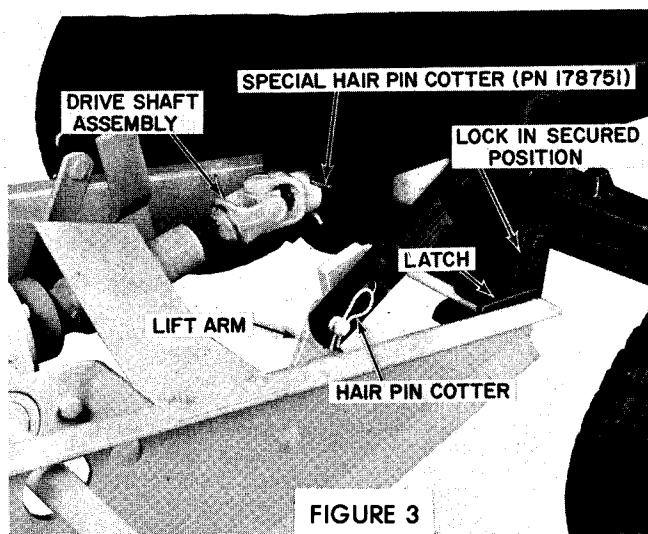

FIGURE 3
2. Raise the locks and the latches on the front of the tractor. Align front of tractor squarely with the pivoted rod on sno-thro and carefully drive the tractor forward until pivot rod is cradled in the tractor saddle brackets. See Figure 3.
4. Lower the latches and locks, Figure 3.
5. Attach drive shaft assembly to the tractor splined P.T.O. shaft and secure with the special hairpin cotter provided. See Figure 3.
with the hairpin cotters as shown in Figure 3.